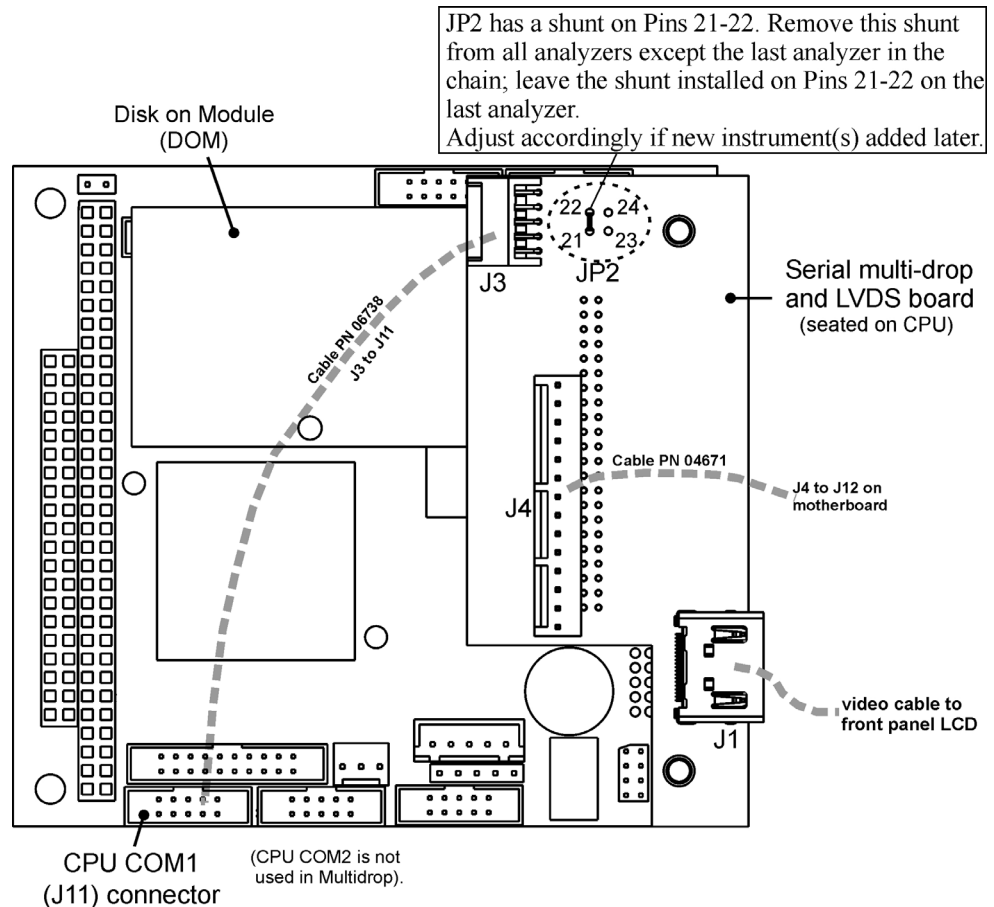

Figure 2-14. Jumper and Cables for Multidrop Mode
In each instrument with the Multidrop option there is a shunt jumpering two pins on the serial Multidrop and LVDS printed circuit assembly (PCA), as shown in Figure 2-14. This shunt must be removed from all instruments except that designated as last in the multidrop chain, which must remain terminated. This requires powering off and opening each instrument and making the following adjustments:
3. Check that the following cable connections are made in *all* instruments (again refer to Figure 2-14):